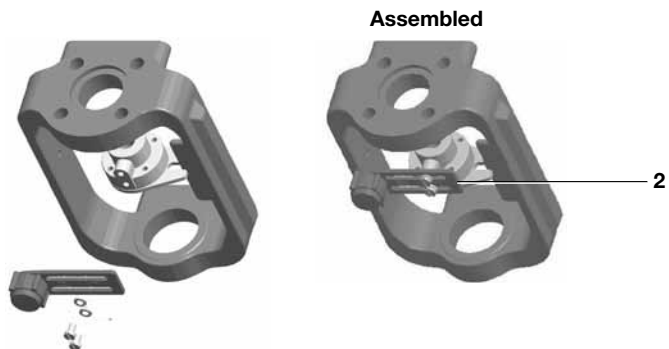

**Fig. 4** Pillar mounting kit for a linear actuator
- 5.2.1** Loosely attach the magnet bracket (2) to the valve / actuator connector (refer to Figures 4 and 5). Be sure it is positioned horizontally (as shown in Figure 5).